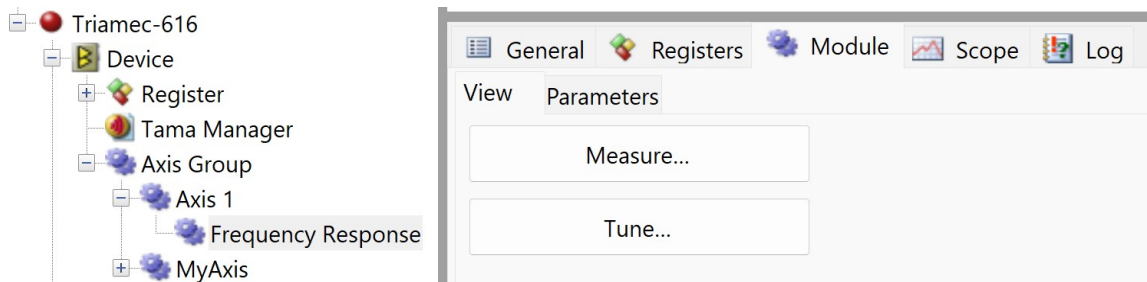
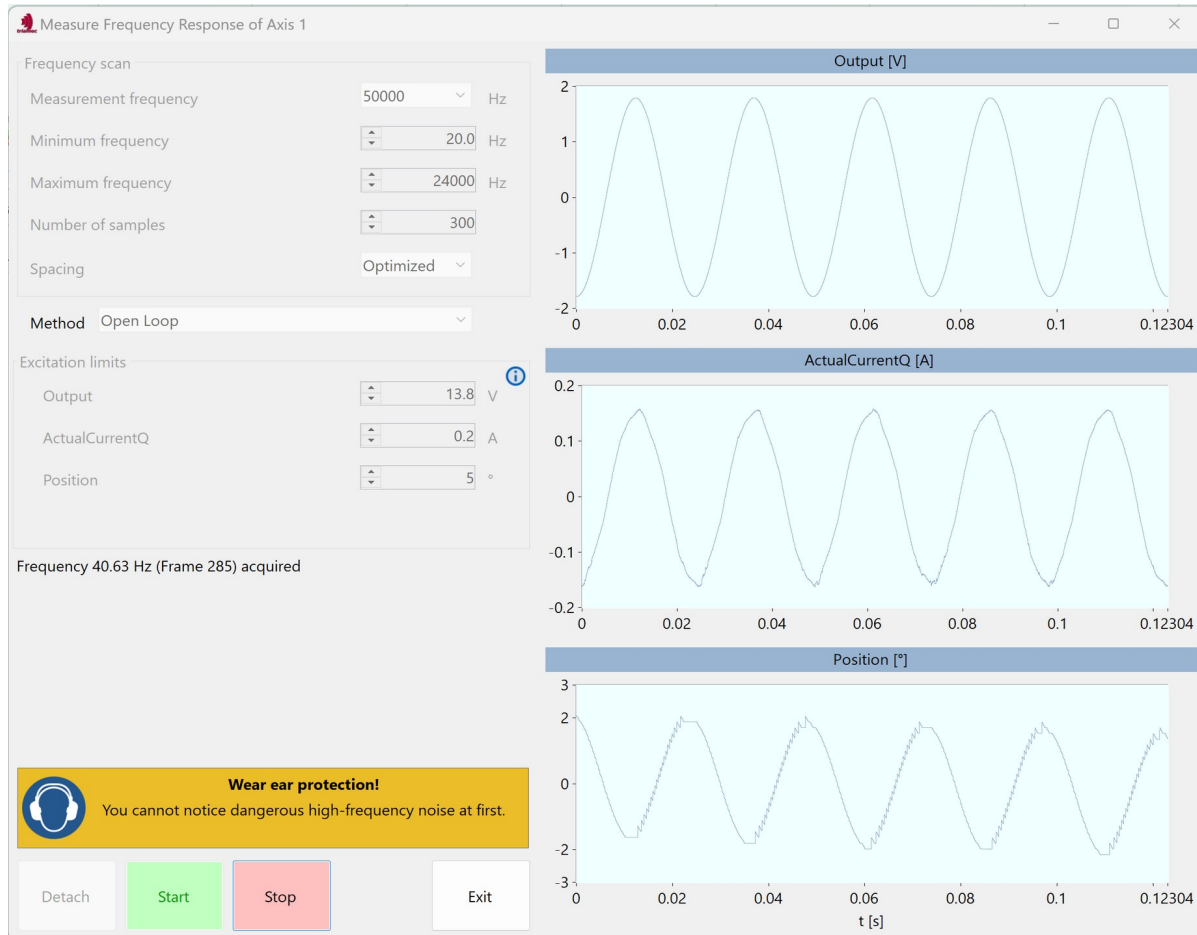

Figure 31: Frequency Response module.
Figure 32: Frequency Response measurement application.
To start the measurement click the **Measure...** button (Figure 31). This opens the window with the application as shown in Figure 32.
- To open measurements in the editor click **Tune Controllers...** (Figure 31).